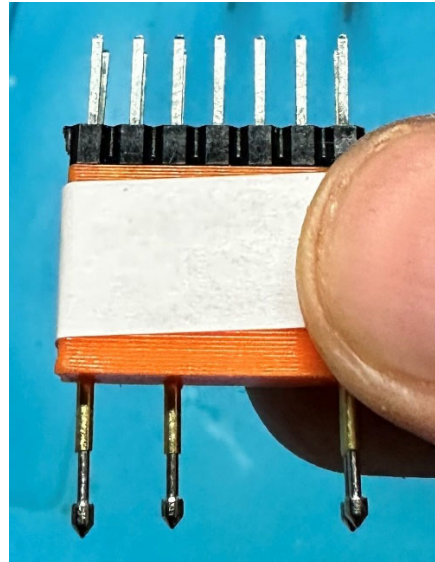

Figure 4
5. You'll insert the pin header side into the PicoPromSD. The side with two parallel pogo pins (right side of Figure 4) goes towards the Open Source Hardware Logo and side with single pin goes towards the programming header (6 pads with holes in them).